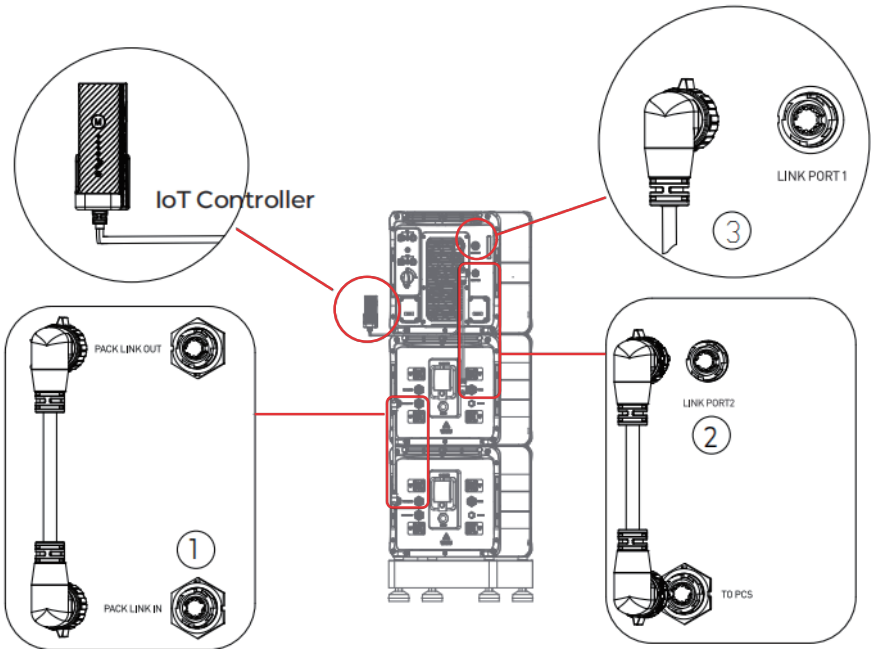

Fig. 7-3
- Step 1:** To achieve communication between two B500 battery packs, a communication cable is required. Plug one end of the cable to the B500's PACK LINK IN port, and the other to the upper B500's PACK LINK OUT port. See Fig. 7-3 ① .
- Step 2:** For communication between the EP900 inverter and B500 battery packs, plug one end of the communication cable to the top B500's inverter signal port (TO PCS), and the other to the LINK PORT 2 of the EP900 inverter. See Fig. 7-3 ② .
- Step 3:** Connect the IoT controller to the LINK PORT 1 of the EP900 inverter. See Fig. 7-3 ③ .